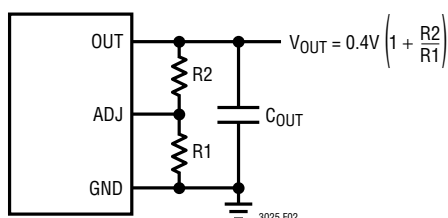

Figure 2. Programming the LTC3025
**ADJ (Pin 5):** Adjust Input. This is the input to the error amplifier. The ADJ pin reference voltage is 0.4V referenced to ground. The output voltage range is 0.4V to 3.6V and is typically set by connecting ADJ to a resistor divider from OUT to GND. See Figure 2.
The output voltage is set by the ratio of two external resistors as shown in Figure 2. The device servos the output to maintain the ADJ pin voltage at 0.4V (referenced to ground). Thus the current in R1 is equal to  $0.4V/R1$ . For good transient response, stability, and accuracy, the current in R1 should be at least 8 $\mu$ A, thus the value of R1 should be no greater than 50k. The current in R2 is the current in R1 plus the ADJ pin bias current. Since the ADJ pin bias current is typically <10nA, it can be ignored in the output voltage calculation. The output voltage can
be calculated using the formula in Figure 2. Note that in shutdown the output is turned off and the divider current will be zero once  $C_{OUT}$  is discharged.